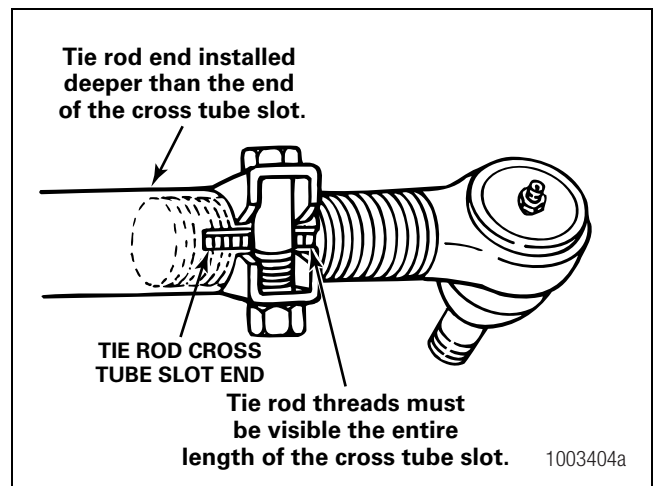

Figure 10.13
- Check that the tie rod end is threaded correctly into the cross tube and installed deeper than the end of the cross tube slot. The tie rod end must be visible the entire length of the cross tube slot. Figure 10.13.